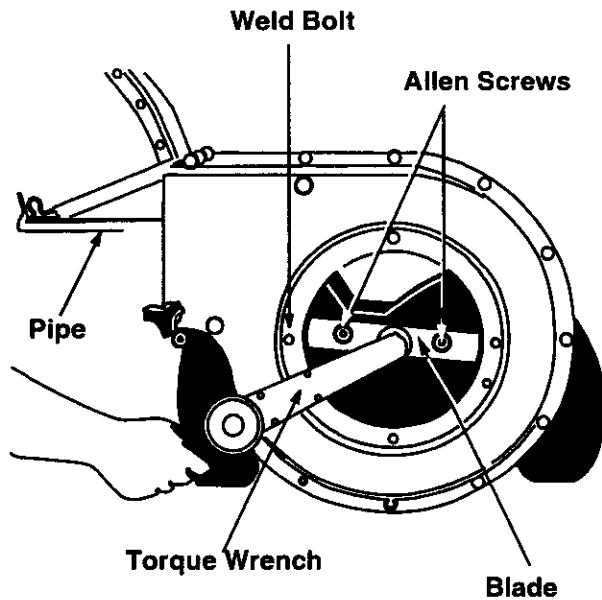

Figure 20
- Lower the hopper assembly. Block up the housing. See figure 20.